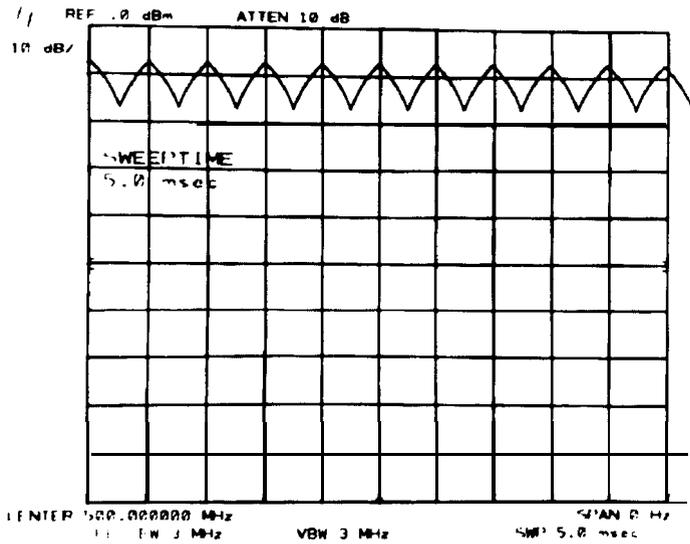

Figure 2-34. Fast Sweep Time Measurement (<20 ms)
10. Adjust spectrum analyzer TRIGGER LEVEL to place a peak of the triangular waveform on the first graticule from the left edge of the CRT display as a reference. (Adjust function generator amplitude, if necessary, to provide a signal large enough to produce a stable display). The fifth peak from the reference should be within ± 0.5 division of the sixth graticule from the left edge of the display (see Figure 2-34).